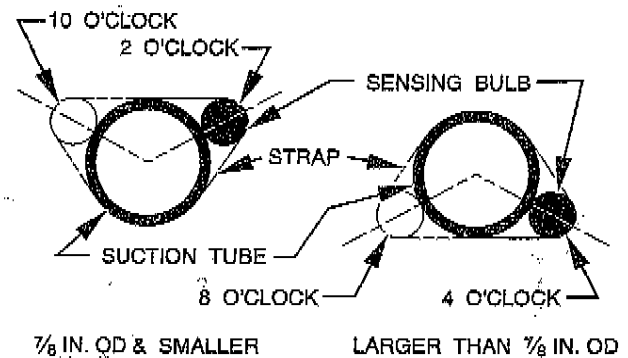

Fig. 4—Positioning of Sensing Bulb
4. Position sensing bulb on horizontal portion of suction tube adaptor. Secure using supplied hardware. Insulate bulb after installation. (See Fig. 4.)